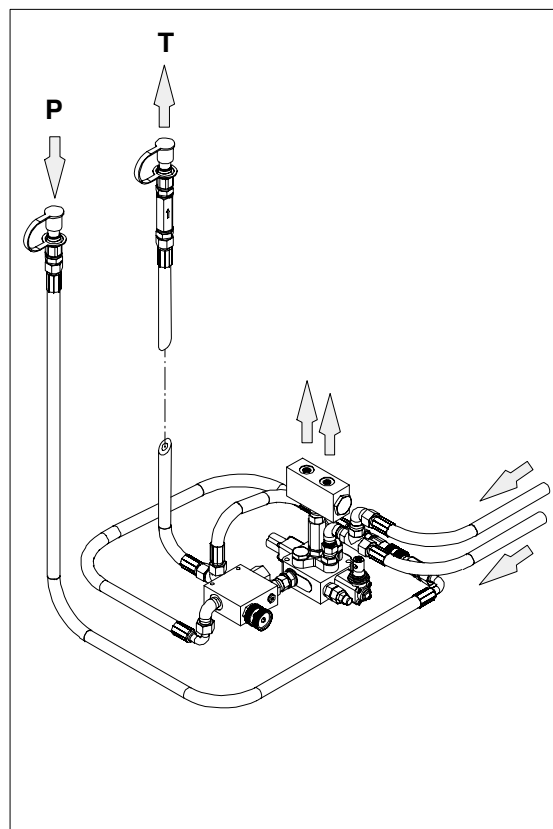

Fig. 5. Connecting the hydraulics, feed.
5. Connect the hydraulic hoses. Connect the pressure hose (P on the valve) to the pressure connector of the tractor's hydraulic system. The maximum operating pressure is 175 bar. Connect the return hose (T) to the return connector of the double-acting valve, or preferably directly to the tank. Fig. 5.